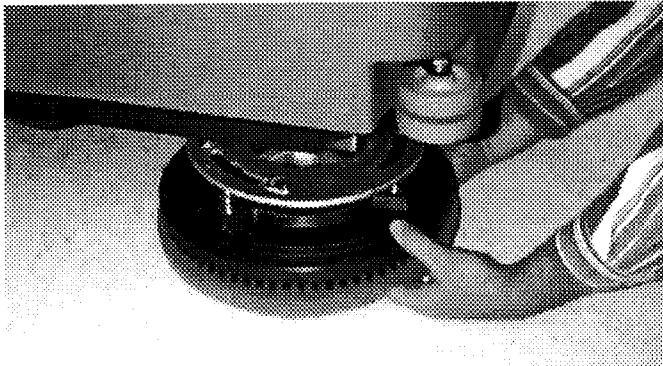

FIG. 8
- Attach brush or pad drivers to motor hubs. Align (3) mounting studs with slots in motor hub. Give the driver a quick turn toward spring clip located on the motor hub. Be certain pad driver is securely fastened and spring clip locks into one of the studs, before operating machine. (Figure 8)